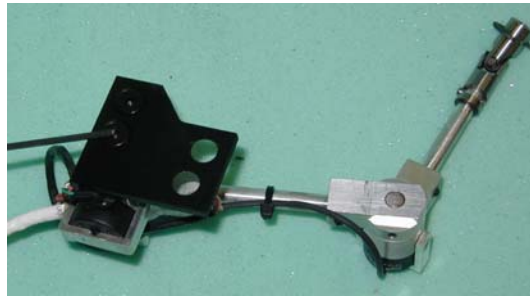

Figure 16.5- Lower Right Mounting Plate attached to Lower Right CRUX unit
3. Mount the Lower Right CRUX Unit (T1CXM003) to the Lower Right CRUX Mounting Bracket (T1CXM401) using two #10-24 x 3/8" FSHCS {1/8}, as shown in **Figure 16.5**. The lower right CRUX mounting bracket is stamped with the letter R. When this piece is held so the stamp is readable, the piece is oriented correctly. The CRUX base should be mounted to the stamped side of the bracket. The flat heat bolts should fit into the countersunk holes in the mounting bracket. The base pot of the CRUX unit should be oriented so it points in the upward direction.